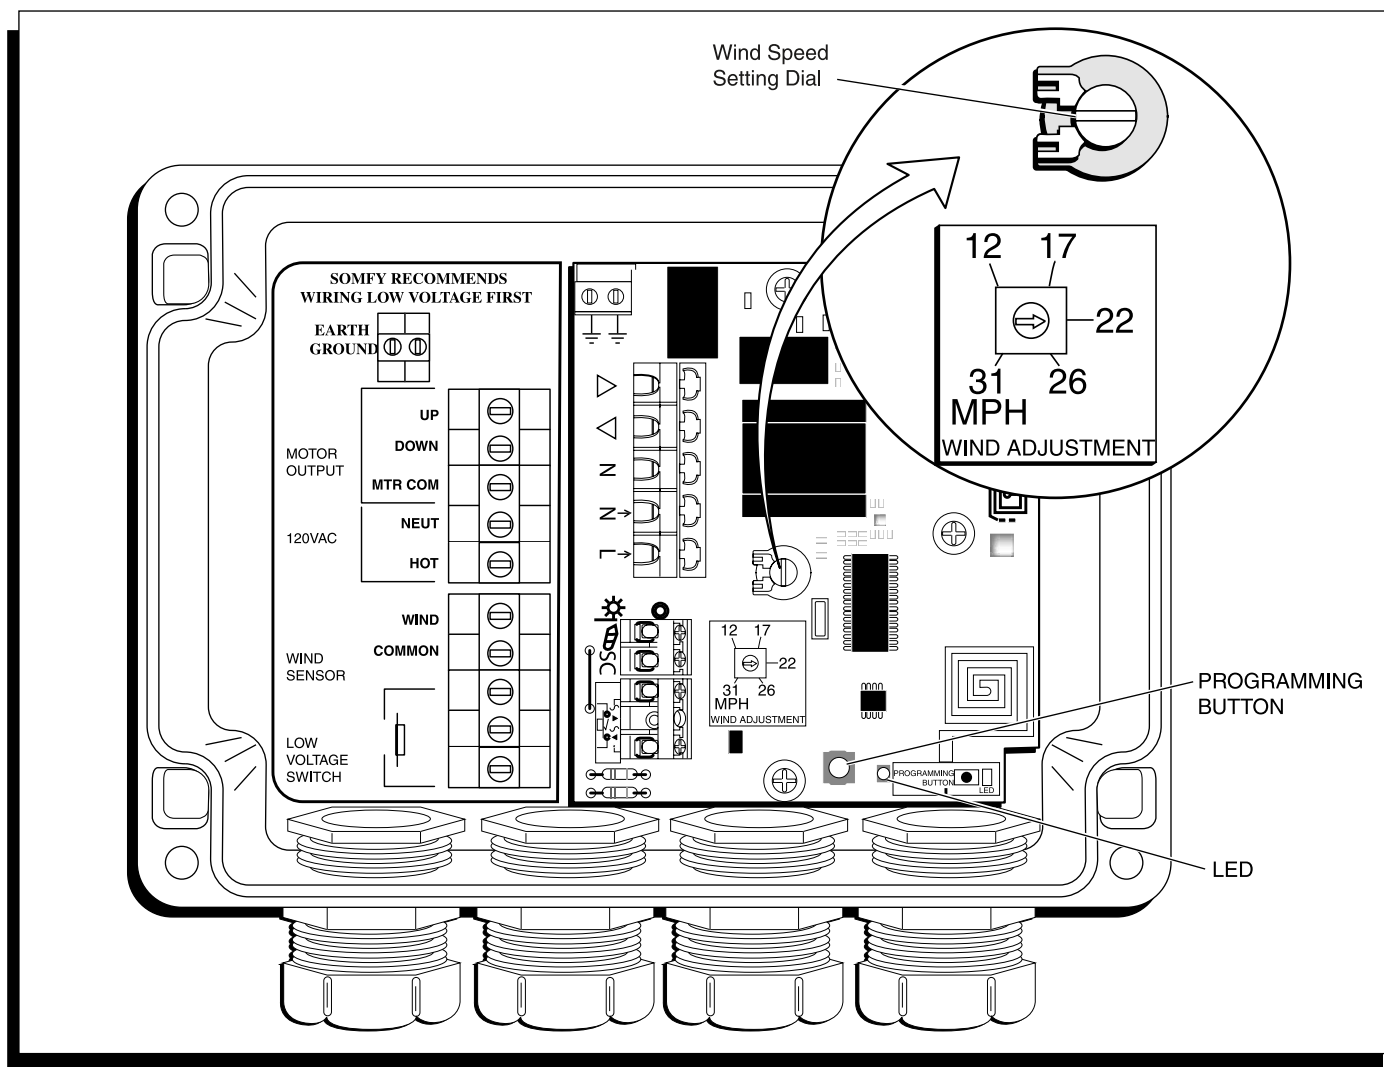

FIGURE 33
- While cover is off control box, take specific note of wind speed setting (Fig. 33 callout, “Wind Adjustment”). The arrow should be pointing at the 3:00 position (factory pre-set at 22 mph). To adjust the pre-set wind speed, rotate the dial to the preferred setting. The minimum setting is 12 mph; maximum setting is 31 mph. GIRARD SYSTEMS STRONGLY RECOMMENDS NOT SETTING THE DIAL OVER 26 MPH. DISREGARDING THIS WARNING MAY VOID WARRANTY.